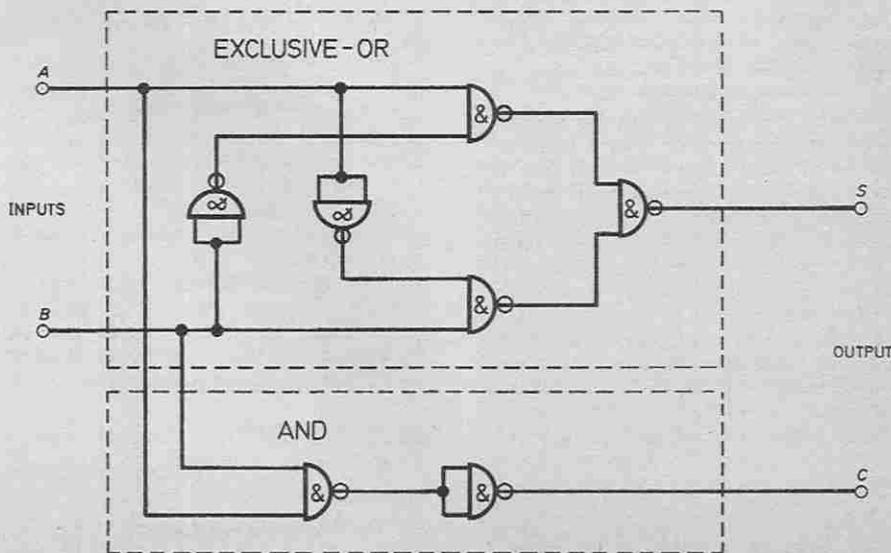

Fig. 11.1. Half-adder made from exclusive-OR and AND sub-units.
The equation for the last line of the table would be  $1+1=2$ , if written in decimal form. The carry digit (C) is added to the next column of figures to the left when you are adding two numbers each consisting of more than one digit. If we look for logical relationships in the truth table, we find that the carry column (C) is the AND of A and B. The sum column (S) is the exclusive-OR of A and B. Exclusive-OR is a little different from the ordinary OR operation we met earlier. In exclusive-OR the output is high if one or the other but not both of the two inputs are high. In Fig. 11.1 we obtain the exclusive-OR function by using five NAND gates. If you ever need this function in other applications, this is the way to obtain it, but if you need several exclusive-OR circuits use the 7486 i.c., which has four two-input exclusive OR gates on one chip.
In Fig. 11.1 we obtain AND, by inverting NAND, so constructing the entire half-adder with NAND gates. With two 7400 i.c.s on the Test-Bed you can assemble the half-adder and carry out all the basic binary additions listed in the truth table.